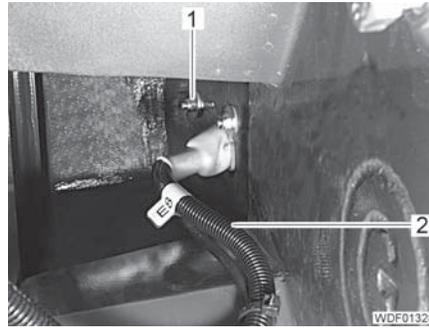
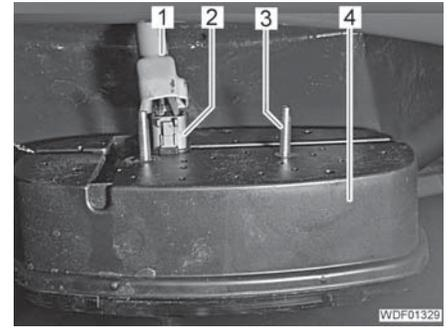

Fig. 466 Tail lamp attachment
Fig. 467 Electrical plug
- Unscrew the 2 nuts (Fig. 466,1).
- Push the cable (Fig. 466,2) through the hole in the rear weight and carefully remove the tail lamp (Fig. 467,4) towards the back.
- Push back the rubber bushing (Fig. 467,1).
- Unplug the connector (Fig. 467,2).
- Plug in the connector (Fig. 467,2) on the tail lamp (Fig. 467,4).
- Push the rubber bushing (Fig. 467,1) over the connector.
- Coat the 2 threads (Fig. 467,3) with locking agent.
- Carefully locate the tail lamp from the back, simultaneously pulling the cable (Fig. 466,2) inwards.
- Screw the 2 nuts (Fig. 466,1) with washers onto the thread and tighten.